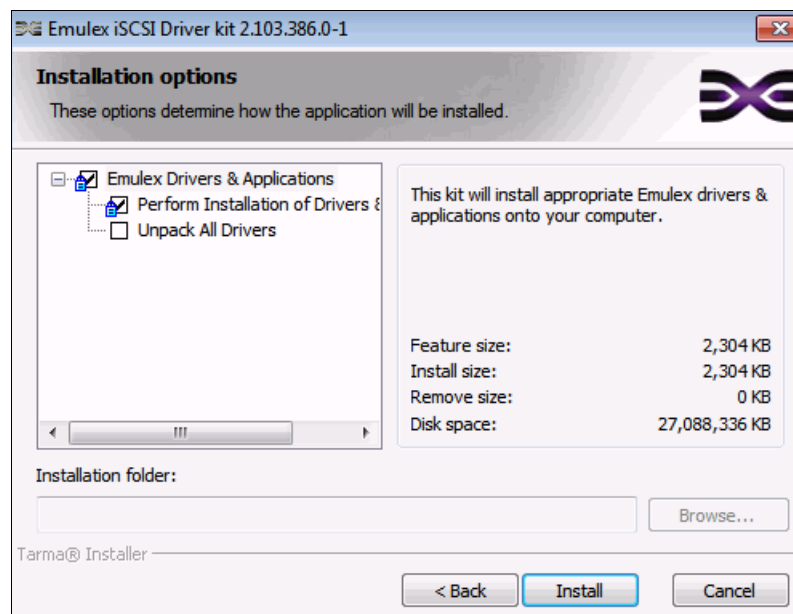

Figure 7-19 Emulex iSCSI Driver Kit installation options
3. In the Installation options panel (Figure 7-19), select the installation option: **Perform Installation of Drivers** or **Unpack All Drivers** (for installation later). Then click **Install**.